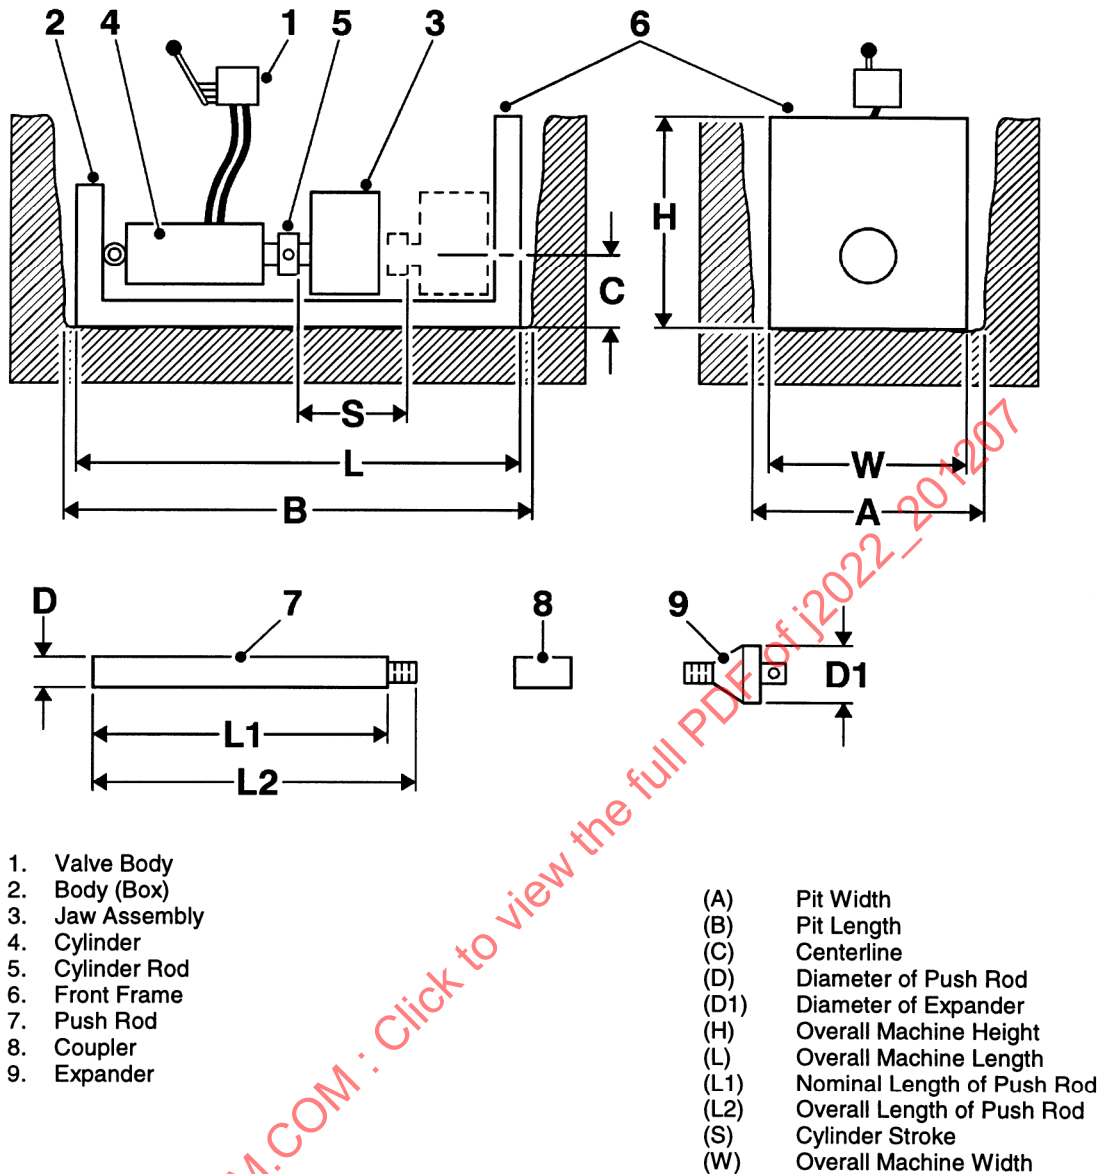

FIGURE 3—ROD PUSHER—SIDE VIEW, END VIEW
4.2.1 NOMENCLATURE—(Refer to Figure 3.)